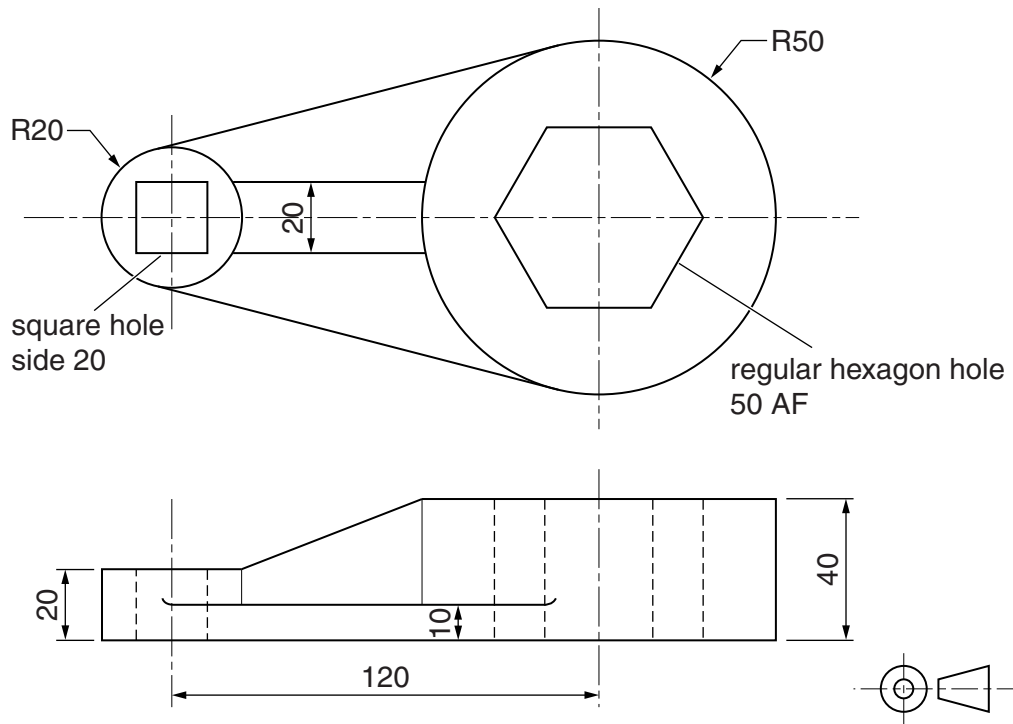

Fig. 7
- 9 Fig. 7 shows a component from a child's construction toy.